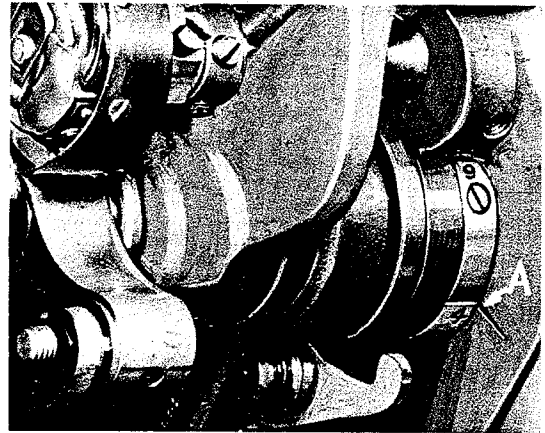

Fig. 25
Tip the machine back against the rest pin and turn handwheel until the needle bar is at the top of its stroke. The timing line "4" on the feed drive eccentric should line up with the mark on the wall of the casting (A, Fig. 25).
5. Hold the handwheel securely and turn the lower main shaft until the timing line "4" on the adjustable feed driving eccentric and mark on the casting wall line up (A, Fig. 25).